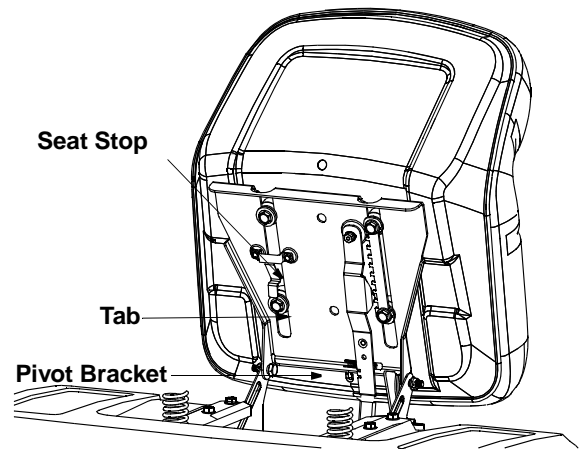

Figure 2
- Place the washer (with the cupped side down) over the steering shaft and secure with the hex bolt. See Figure 2.